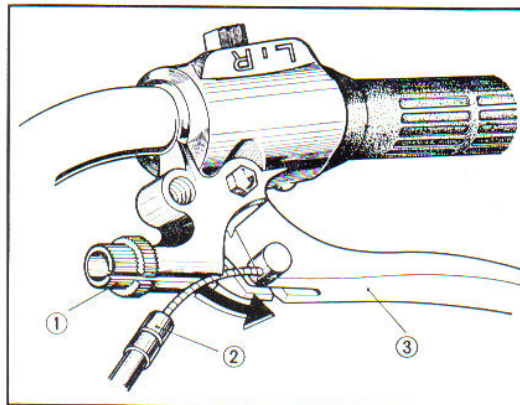

Fig. 4.4 Removing cable from the handle
2. Remove the brake and clutch cables from the handle bar by turning the slotted ring adjusting nut so that the slots in the holder and the ring are aligned. Remove inner cable and slide the cable end off of the handle lever. (Fig. 4.4)